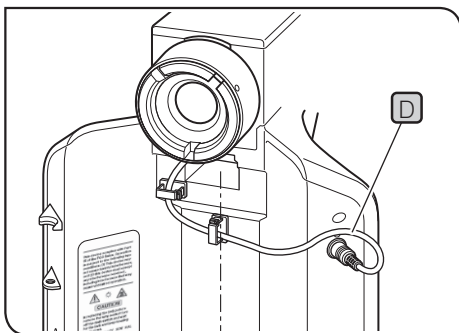

Fig.64
- Distribute its cable **D** toward the rear panel by passing it below the arm, and connect the cable to the connector on the rear panel (Fig.64).